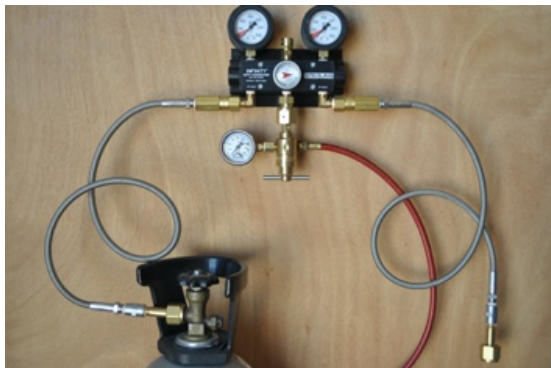
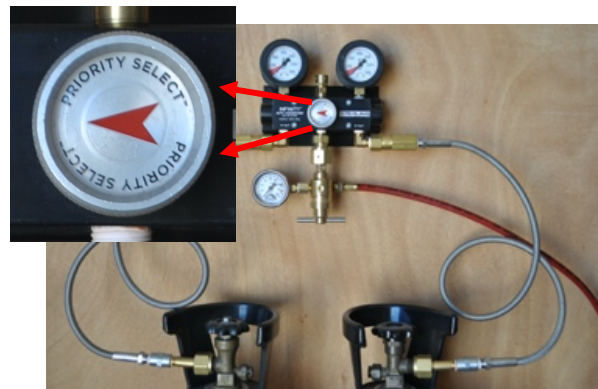

Figure 4 (Replace empty tank)
Figure 5 (Turn knob to change the reserve into New Primary)
1. Replace the empty cylinder(s) (Figure 4) and rotate the knob 180 degrees (Figure 5). Your reserve is now your main supply leaving a full reserve cylinder.